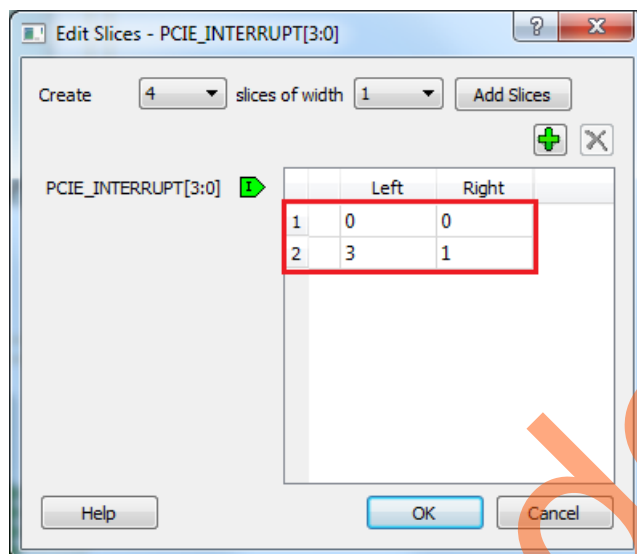

Figure 24 • Edit Slices
16. Click the + sign and create a slice with the Left index 0 and the Right index 0. Click + again to create a second slice with Left index 3 and Right index 1 as shown in Figure 24.